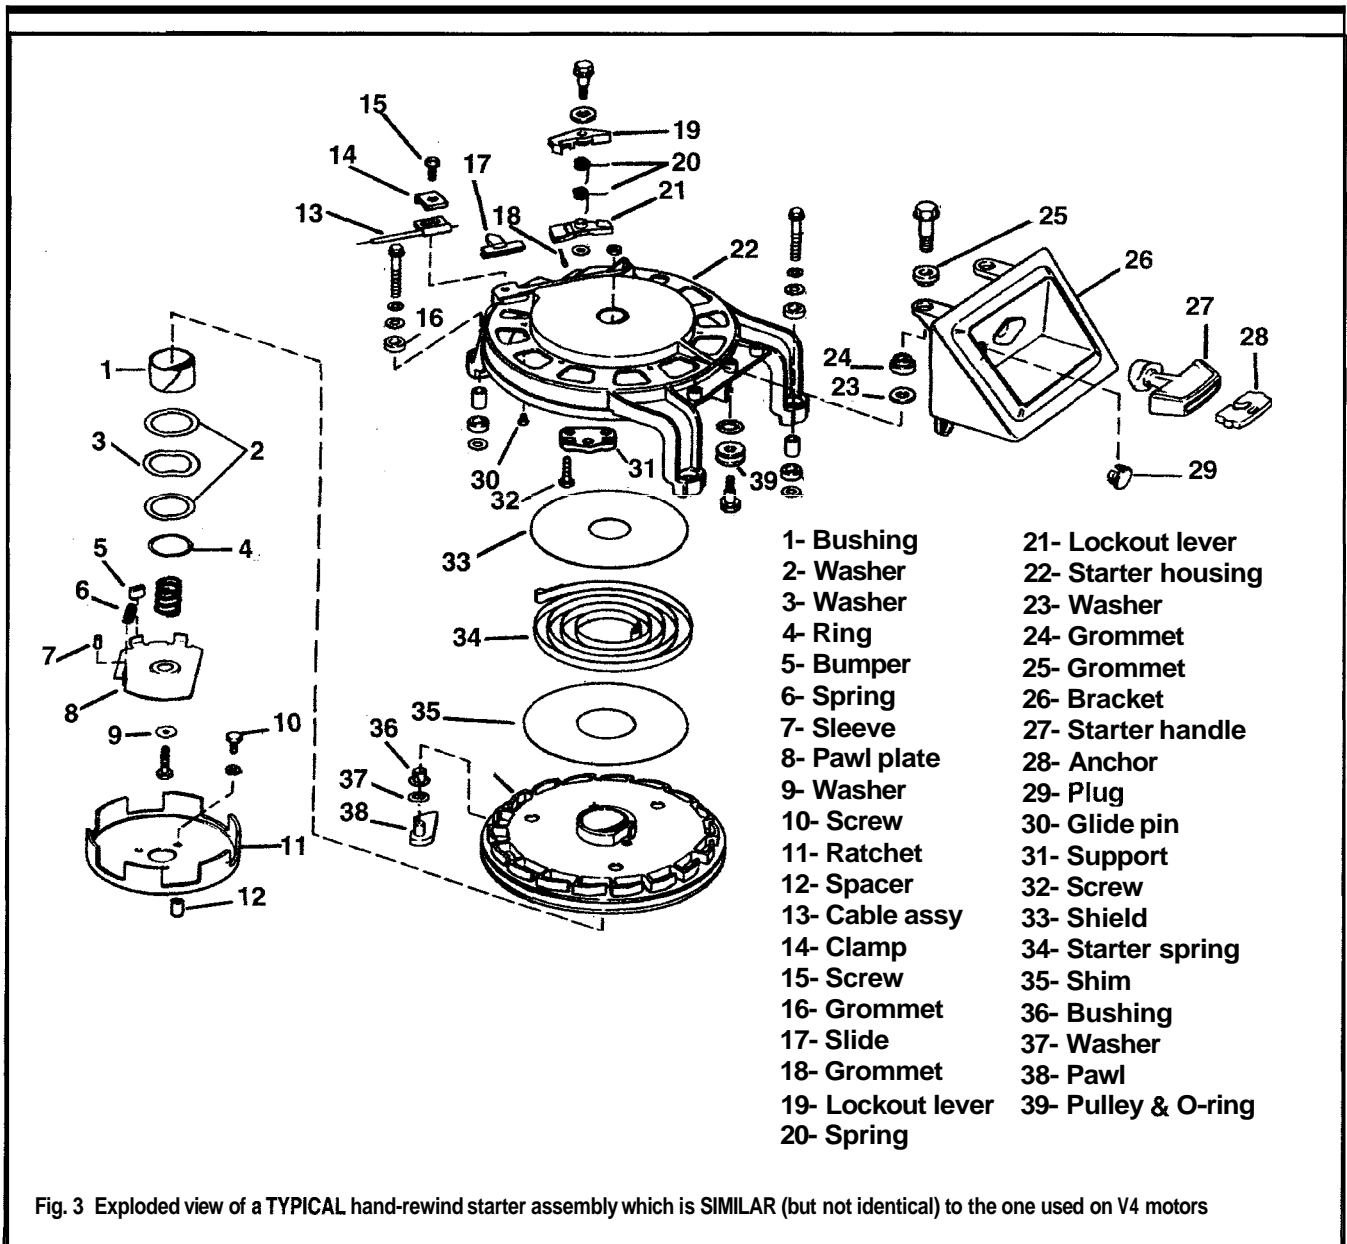

Fig. 3 Exploded view of a TYPICAL hand-rewind starter assembly which is SIMILAR (but not identical) to the one used on V4 motors
◆ See Figure 3
◆ See Figures 3 and 4
- ◆ See Figure 3
- ◆ See Figures 3, 5 and 6
- ◆ See Figures 3, 7, 8, 9, 10, 11, 12, 13, 14 and 15